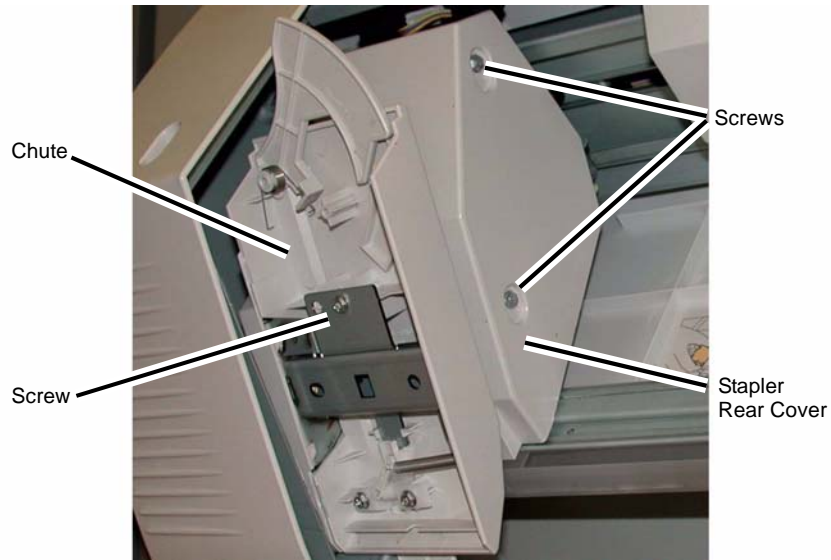

Figure 3 Removing the Chute and Stapler Rear Cover
6. Remove the Chute (Figure 3).
- a. Remove the Screw (1).
7. Remove the Stapler Rear Cover (Figure 3).
- a. Remove the Screws (2).